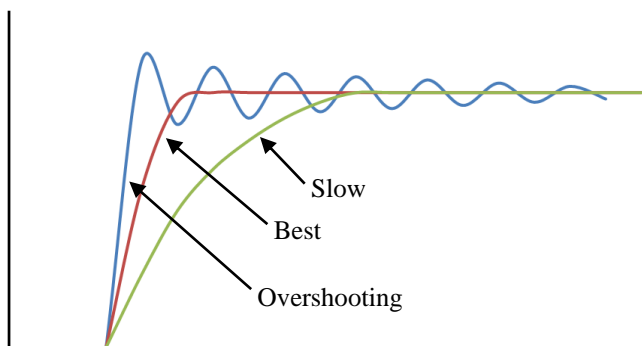
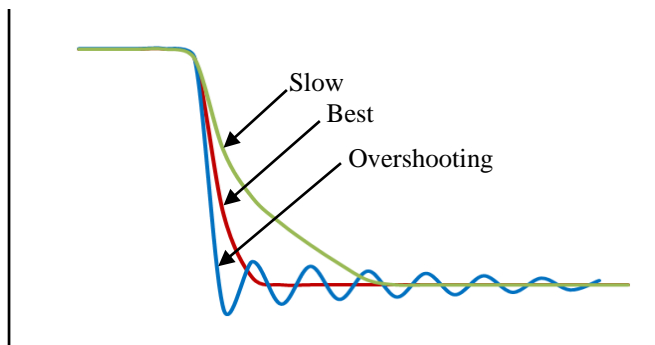

Figure 8. Rise Waveforms of VTEC
Figure 9. Fall Waveforms of VTEC
1. Hook up the power supply, TEC and thermistor. There are 2 solder pads in the upper right area on the edge for connecting the DC power supply voltages in the right polarity as indicated onto the board. Usually the power supply is set to 5V. There are also 2 solder pads in the center right area on the edge for connecting the TEC terminals in the right polarity as indicated onto the board. Connect the thermistor terminals to the board, there is no polarity requirement. On the top of the board, there is the switch bank SDNG, the second switch Delta TEMPSP is used to adjust the compensation network of temperature control loop by inputting a square wave disturbing signal in temperature input point, which enables the system to generate corresponding response waveform. At this time, observe the waveform change by oscilloscope, and adjust and optimize the compensation network of the temperature control loop so as to achieve the best waveform at the same time. Response waveform is achieved by measuring VTEC with oscilloscope, as shown in Figure 8 and Figure 9. The compensation network components consist of  $R_I$ ,  $R_D$ ,  $R_P$ ,  $C_D$  and  $C_I$ , which will be adjusted by S2, S3, S4, S5 and S6 (When turning one of these switches to higher position, the corresponding value will be applied). These connections can be done by clipping or soldering on the pads, see Figure 1. Check the evaluation board connections, making sure that they are all correctly connected.